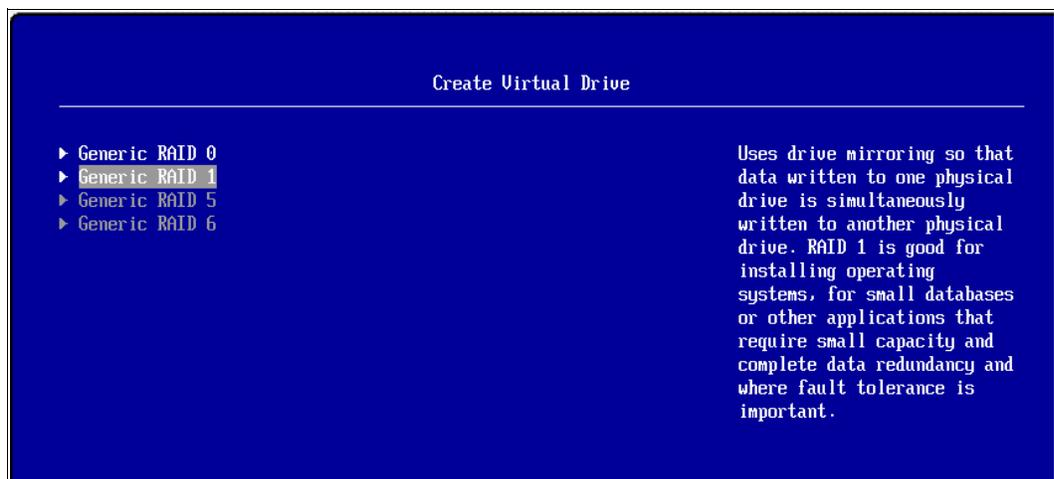

Figure 5-25 Create Virtual Drive panel, Generic RAID 1 selected
- From the Create Virtual Drive panel, select the RAID level that you want for your array. For this example, we selected RAID 1 as shown in Figure 5-25.